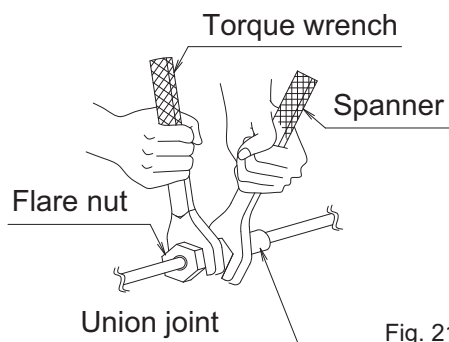

Fig. 21
- When connecting the piping to the air conditioner, make sure to use a spanner and a torque wrench as shown in Fig. 21.